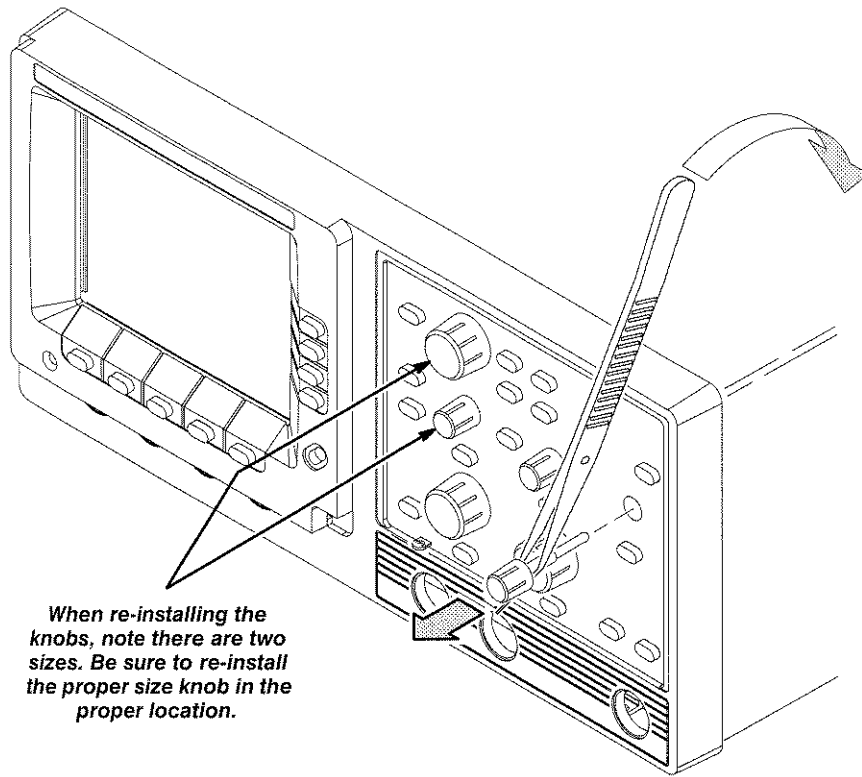

Figure 8-6: Knob and Shaft Removal
2. Insert the tweezers between the knob and front panel and use them to remove the knob and attaching shaft (see Figure 8-6).